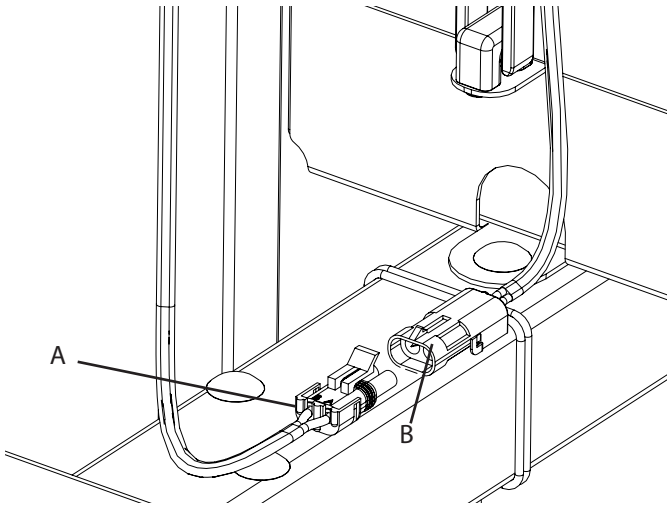

Figure 1: Disconnect solar panels from the charge controller.
- Disconnect solar harness plug (A) from charge controller harness plug (B). (Figure 1)
- Disconnect charge controller harness plug (A) from speed control harness plug (B). Disconnect battery plug (C) from speed controller (D) (If equipped).